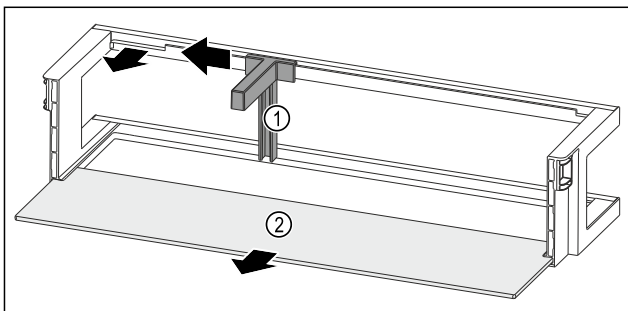

Fig. 132 Door racks with bottle holder and shelf
- ▶ Push the bottle holder Fig. 132 (1) to the side up to the recess.
- ▶ Remove the bottle holder Fig. 132 (1).
- ▶ Remove the shelf Fig. 132 (2).